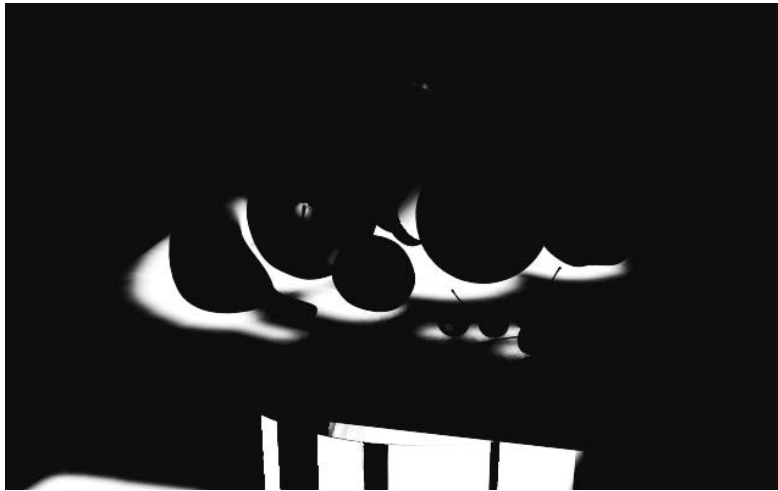

Figure 11.21
**Shadow** Renders only the shadows cast in the scene into the Alpha channel of the image. Figure 11.21 shows the fruit still life's shadow element. Keep in mind that you will have to render to an image format that has an Alpha channel, such as TIFF.